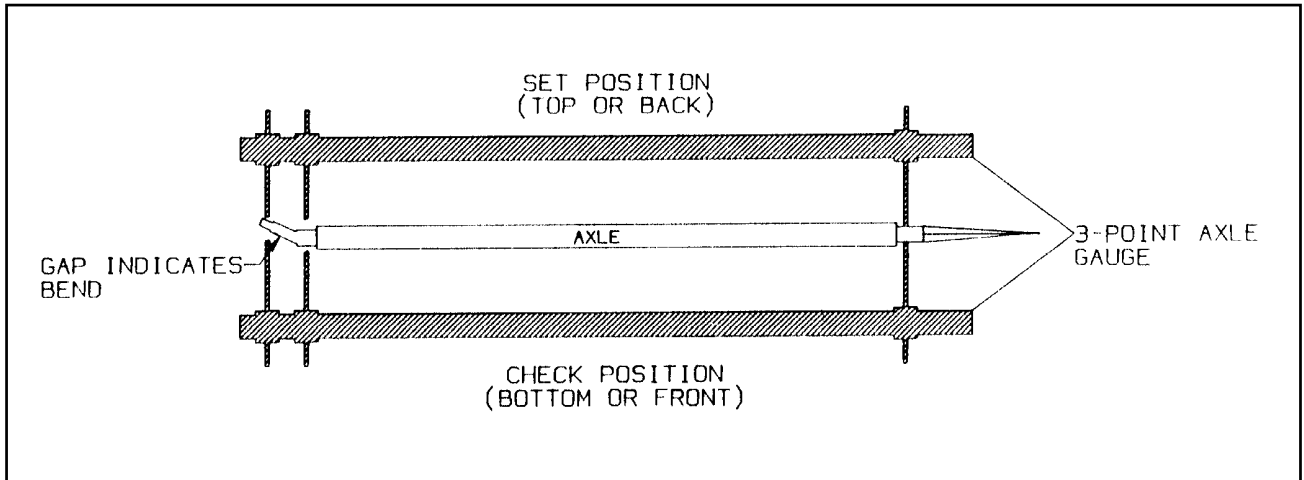

Figure 4-7 Checking Axle for Bend
- b. Place a 3-point axle gauge against the front side of the axle, and adjust each axle gauge point to the axle. (Double point end against the inner and outer wheel bearing surfaces of the spindle being checked and the other point on the inner bearing surface on the other spindle (See Figure 4-7).
- c. Move the axle gauge and place against the back side of the axle. If either of the points of double point end fails to touch the axle surface, a bent spindle is evident. A point gap of .015" or more is considered excessive tire "toe" and the axle must be replaced (See Figure 4-7).